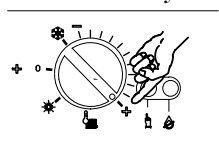

Fig. 2.6
The output temperature of c.h. water is adjustable from a minimum of about 38°C to a maximum of about 80°C (Fig. 2.6), by turning the knob (8).